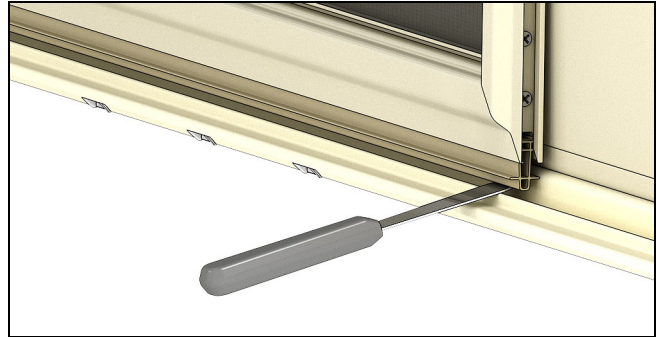

Figure 8
2. Once you are sure the rollers are fully seated in the screen track, pivot the screen panel into position toward the sill and place the bottom screen panel guide into the sill track by lifting it with your fingers or by lifting with a stiff putty knife. See Figure 8.